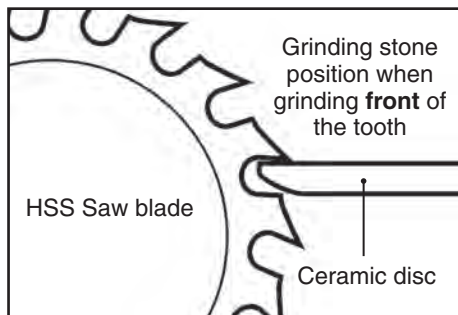
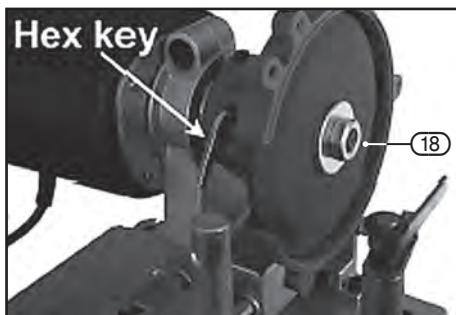

FIG.4
FIG.17
### 8.3 GRINDING SET UP AND ADJUSTMENT – FIGS.4 – 7
- Depending on whether you are intending to sharpen the face or back of the tooth, the saw blade must be adjusted, as shown in the illustrations in FIGS.4 – 6
- Using an appropriate sized Hex. key (*not supplied*), insert it into the aperture located on the side of the drive shaft housing (FIG.17)
- Using a 17mm spanner (*not supplied*), undo the grinding wheel retaining nut (18).
**Note:** When fitting the ceramic disc, refer to FIGS.4 – 5 on page 14, to make sure the disc is fitted the correct way round.